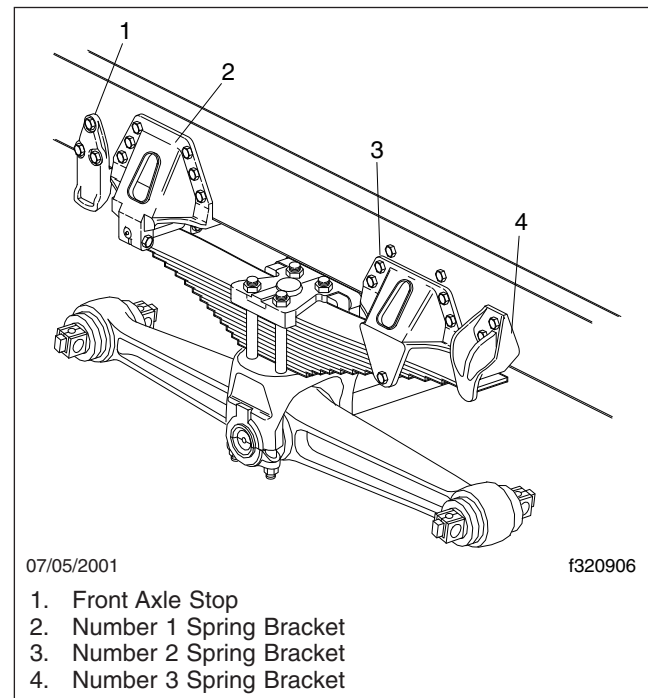

Fig. 8, Hendrickson RT Series Suspension
1. Inspect the fasteners that attach the suspension brackets to the frame. See Fig. 8. See Group 00 for bolt torque specifications.
2. Check that the torque on the number one spring bracket lock bolts is 45 to 63 lbf·ft (62 to 85 N·m). See Fig. 8.
4. Inspect the cam surfaces of the number two spring bracket and number three spring bracket for wear due to high mileage. See Fig. 8. Also check the inner side edges of the hanger legs for wear. Excessive wear on the sides of the legs is an indicator there may be problems with the spring eye bushing. Excessive wear at either point requires that the spring hanger be replaced.